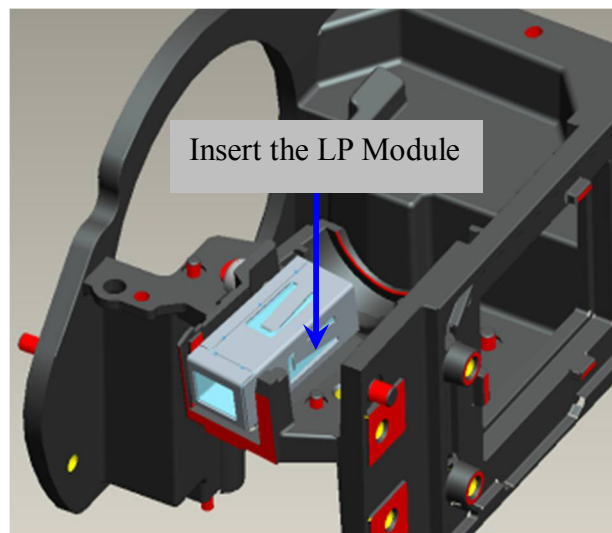

Fig. I-3
- ii. Press CLIP of BKT LP first and push it into the hole (Fig. I-3).